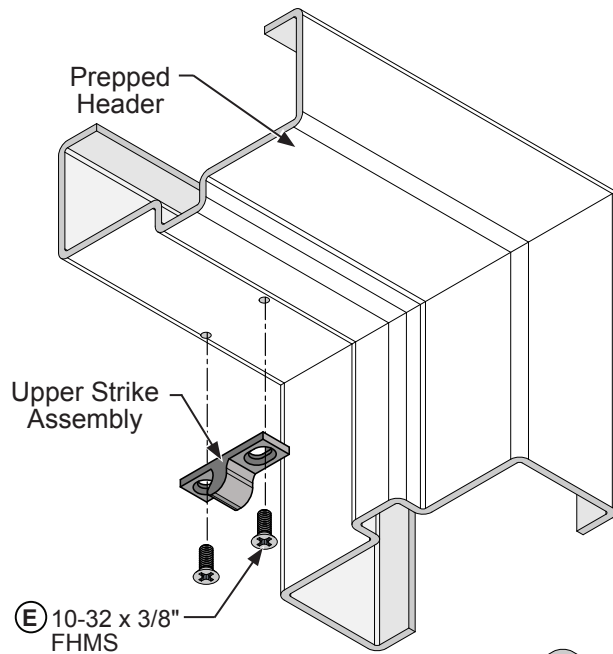

FIG. 17
Attach the upper strike to header using (E) (2) 10-32 x 3/8" FHMS. (Fig.17)